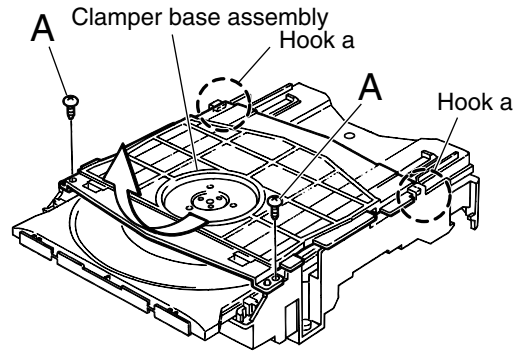

Fig. 1
■ Removing the clamber base assembly and tray (See Figs. 1 to 5)